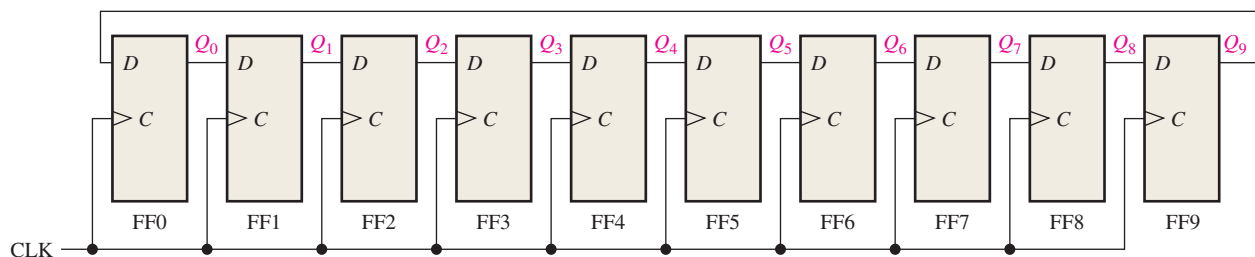

FIGURE 8-60
27. For the ring counter in Figure 8-60, show the waveforms for each flip-flop output with respect to the clock. Assume that FF0 is initially SET and that the rest are RESET. Show at least ten clock pulses.